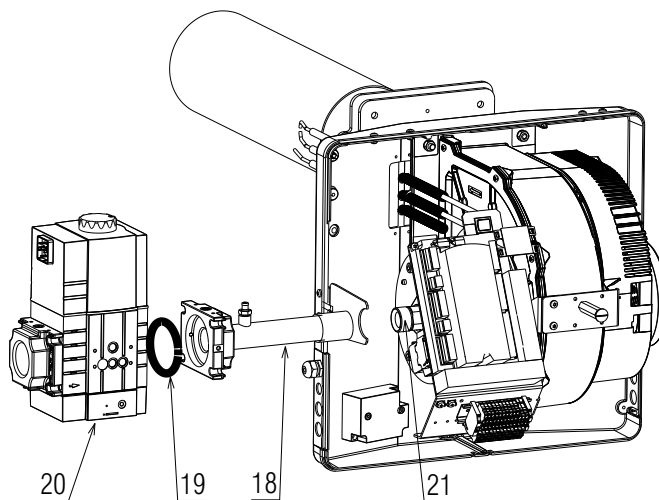

Fig. 15
- Fix the gas valve 20) to the flange (Fig. 15) using the 4 screws 18)(Fig. 15) supplied.
- Be aware of the presence of the gasket 19)(Fig. 15) and the gas seal.
Use a suitable sealant and check the gas seal (Fig. 15).